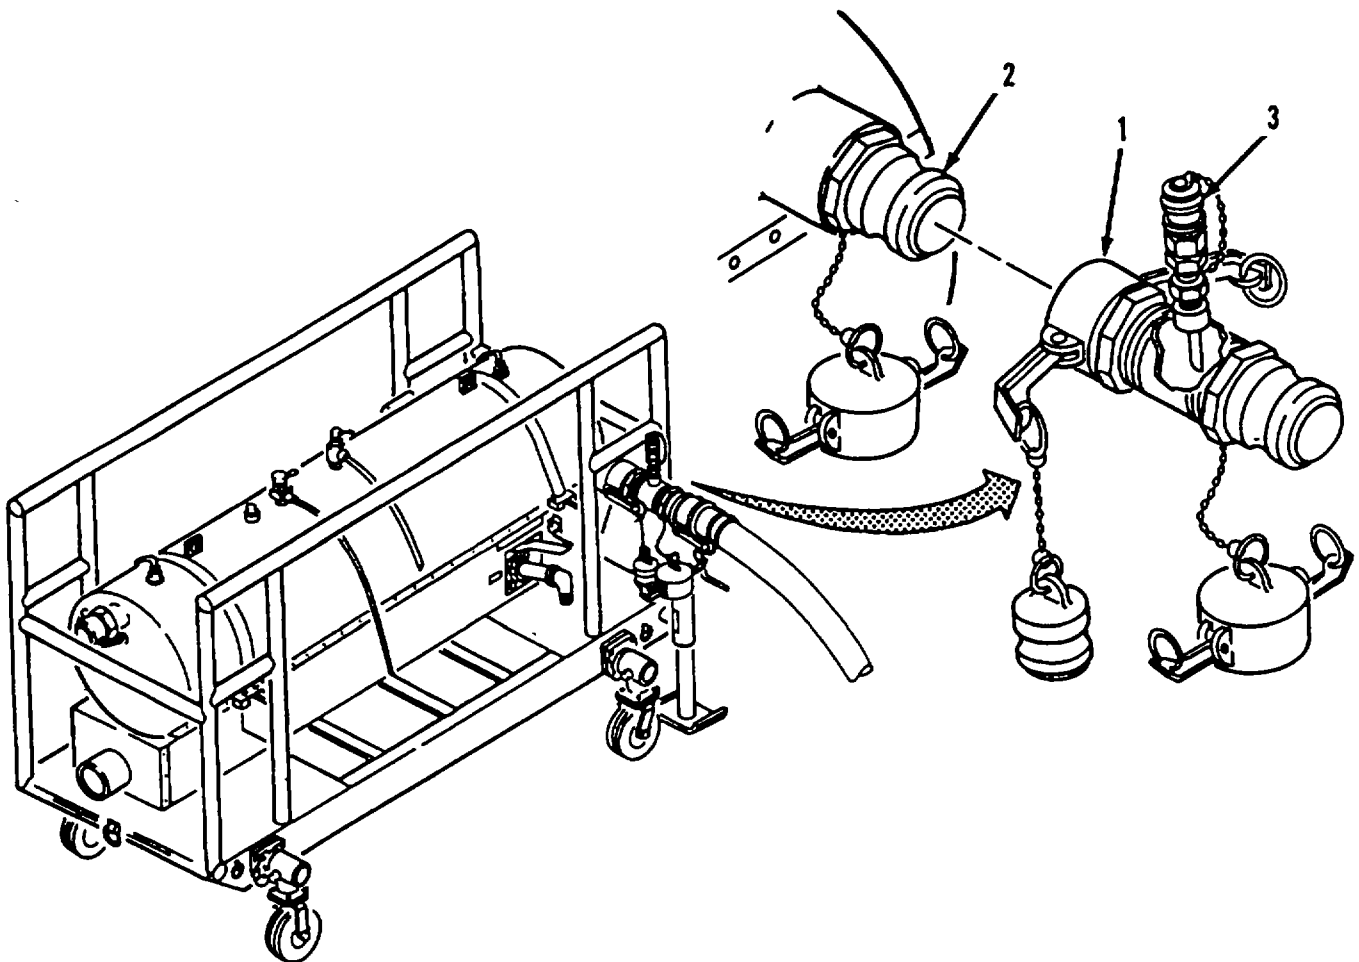

Figure 2-18. Fuel Sampling.
e. Fuel Sampling (Refer to figure 2-18)
- (1) It is mandatory that the performance of filter-separator on all aircraft refueling equipment be checked every 30 days through the submission of samples taken from the effluent stream of the filter-separator.